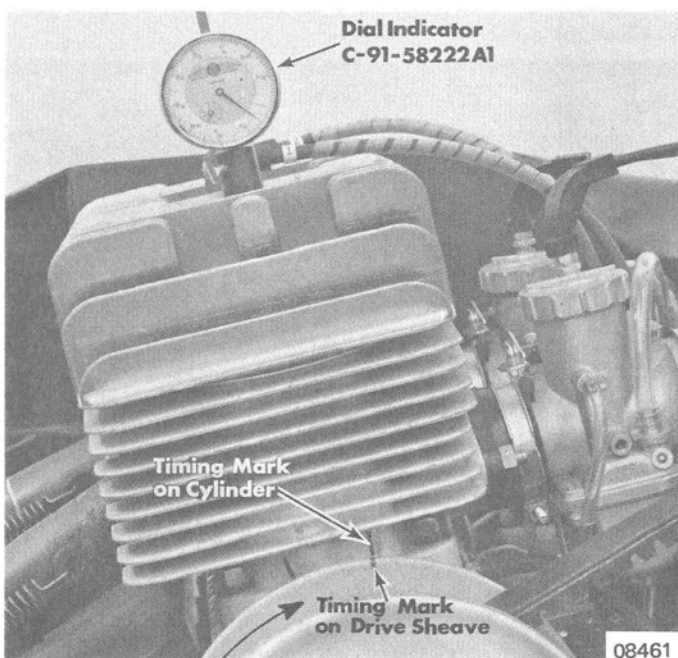

Figure 2. Placing Timing Mark on Cylinder
6. Rotate drive sheave clockwise (viewed from PTO side), until dial indicator shows timing degree listed in specifications. (Refer to "Specifications" Section 8.) Place a mark on cylinder directly opposite mark on drive sheave. (Figure 2)